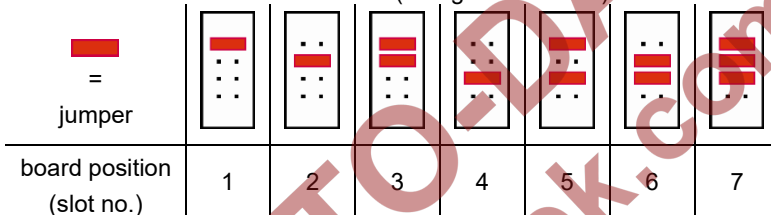

Fig. 6-5: Pin connector with jumper positions
- ▶ Insert the relevant jumpers in the suitable pin connector in order to define the number on the board (⇒ Fig. 6-5 and 6-6).